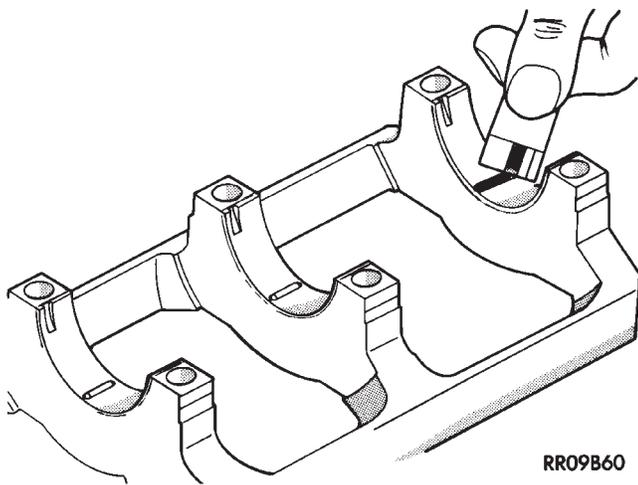

Fig. 8 Measuring Clearance
(5) Carefully remove the bearing cap and measure the width of the plastigage at the widest part using the scale on the plastigage package (Fig. 8). Refer to specification (Fig. 6) for proper clearances. Also see Measuring Main and Connecting Rod Bearing Clearance in Standard Service Procedures.